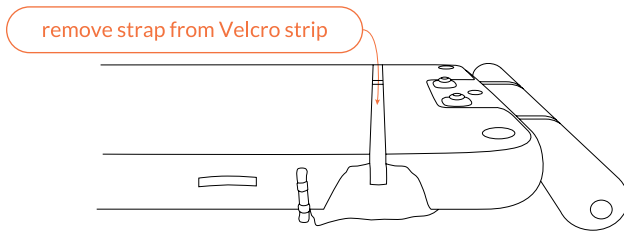

Fig 33 – Ballast Bag up
1. Place each Ballast Bag in the down position by removing the Ballast Bag strap from the Velcro strip on top of the Platform (Fig 33).